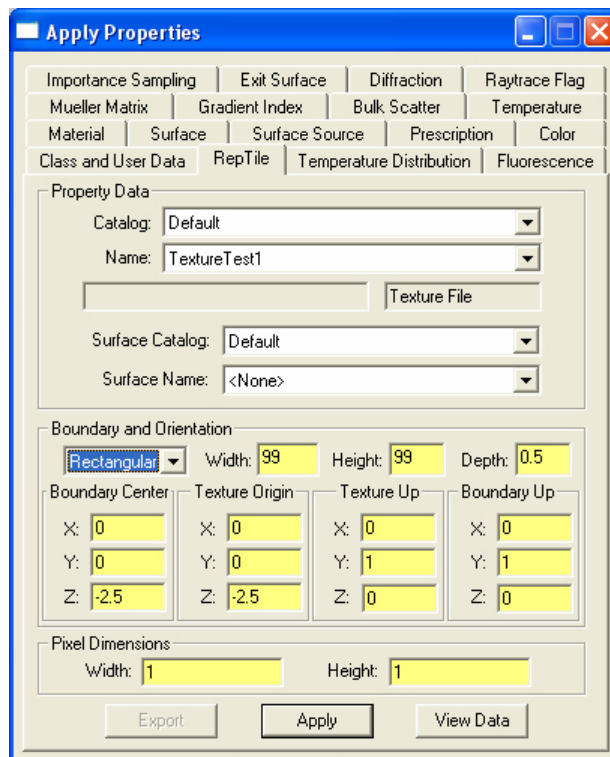

Figure 23. Apply TextureTest1 to the Backlight > Texture surface.
4. Enter the parameters as shown in Fig. 23,